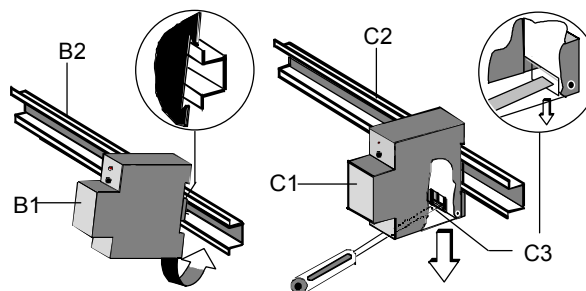

Figure 2: Mounting and dismounting a DIN-rail device
### Mounting DIN-rail devices (Figure 2)
- Slide the device (Figure 2, B1) onto the DIN-rail (Figure 2, B2) and
- press down the slide (Figure 2, C3) with a screw-driver and
- swivel the device (Figure 2, C1) from the DIN-rail (Figure 2, C2).